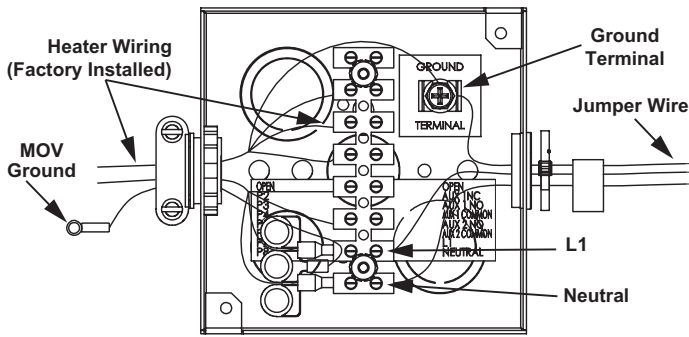

Figure 49
The 120 VAC hot wire from the power supply must connect to the black jumper wire or the "L1" terminal block location in the junction box and the 120 VAC neutral wire must connect to the white jumper wire or the "Neutral" terminal block location in the junction box for correct polarity. See Figure 49.
3. Connect the 120VAC hot wire from the power supply to the black jumper wire or the terminal block location marked "L1" inside of the junction box located on top of the water heater. If the black jumper wire is used, make the connection inside of the junction box with a properly sized wire nut and wrap electrical tape around the wire nut and wire end. See junction box Figure 49 on page 41 and wiring diagram Figure 58 on page 66.
4. Connect the 120VAC neutral wire from the power supply to the white jumper wire or the terminal block location marked "Neutral" inside of the junction box located on top of the water heater. If the white jumper wire is used, make the connection inside of the junction box with a properly sized wire nut and wrap electrical tape around the wire nut and wire end. See junction box Figure 49 on page 41 and wiring diagram Figure 58 on page 66.
5. Connect the ground wire from the power supply to the green jumper wire or the ground terminal location inside of the junction box located on top of the water heater. If the green jumper wire is used, make the connection inside of the junction box with a properly sized wire nut and wrap electrical tape around the wire nut and wire end. See junction box Figure 49 and wiring diagram Figure 58 on page 66.